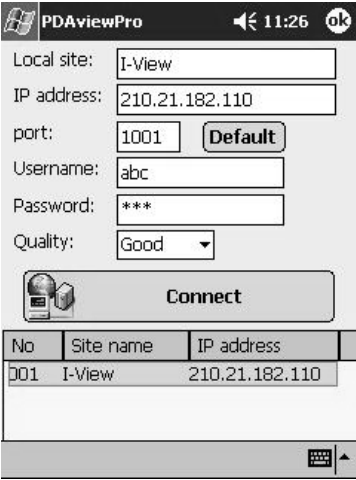

Fig 9-2
- Step 3.** Click  on the bottom **Tool bar** and you should see the following Fig 9-2.